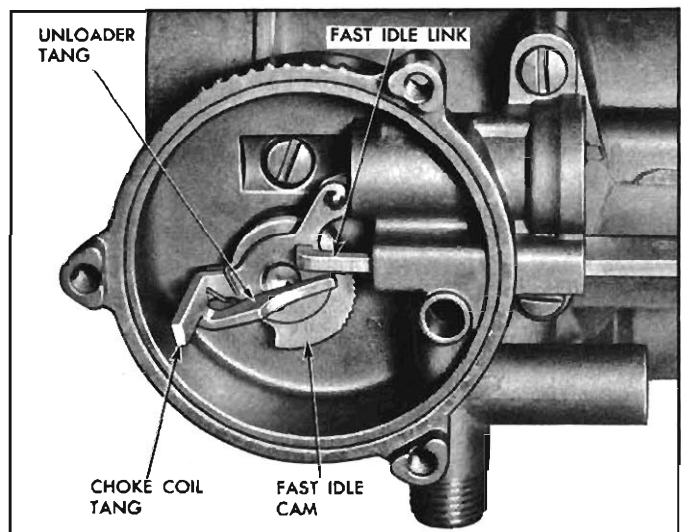

Fig. 9-40—Choke Housing and Fast Idle Linkage
14. Install fast idle link into choke housing and hook unloader projection over tang on fast idle cam assembly (fig. 9-40).